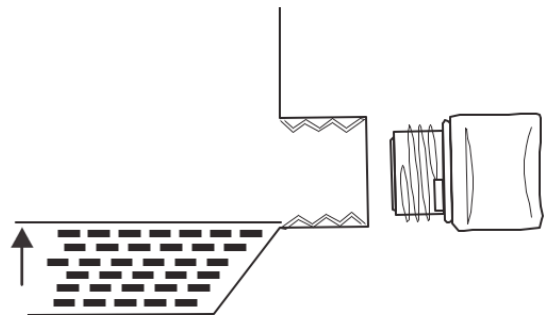

Figure 4: Engine Oil Correct Level
4. Do not overfill, if oil level is too high, oil will drain out through the fill plug. See correct oil level in Figure 4.
- The engine is filled with engine oil (see *Figure 4: Engine Oil Correct Level* on page 12).